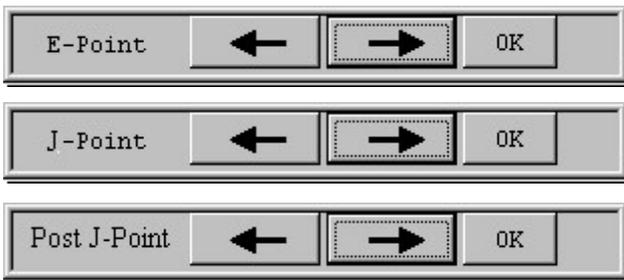

Fig 4.9
- Press '**E-point**' button to change the position of E-point to left or right press the '<- ' or '->' **button** as shown in fig 4.9 respectively. Similarly press J-point and Post J-point button to change the position of J-point and post J-point respectively.